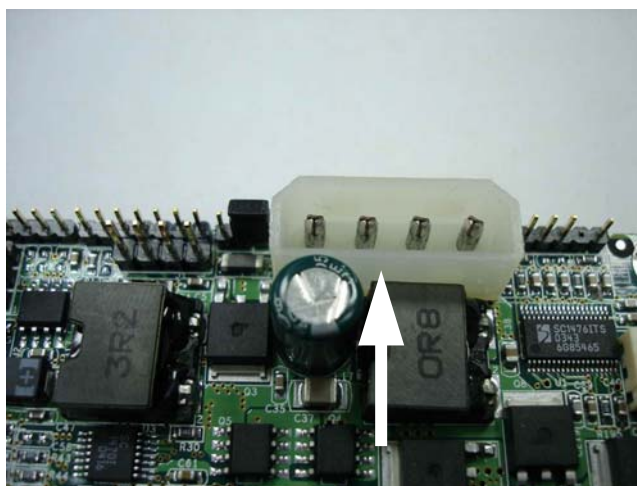

Figure 5-1
ROBO-6710/6730 series requires power drawing from the power connectors (CN1), **please connect the IDE Peripheral power connector. If this connector is not connected, then the system might fail to boot up.** (Figure 5-1) !!
Step 4: Please check the connection of the IDE Peripheral power connector properly (CN1), which shows on Figure 5-1.